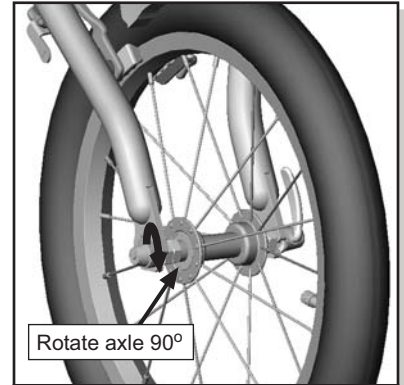

Fig. 2 Rotate Axle
- a. Open the front wheel quick release, step 6 of the Owner's Manual. Rotate axle 90 degrees in dropout, Fig. 2 and retighten quick release.